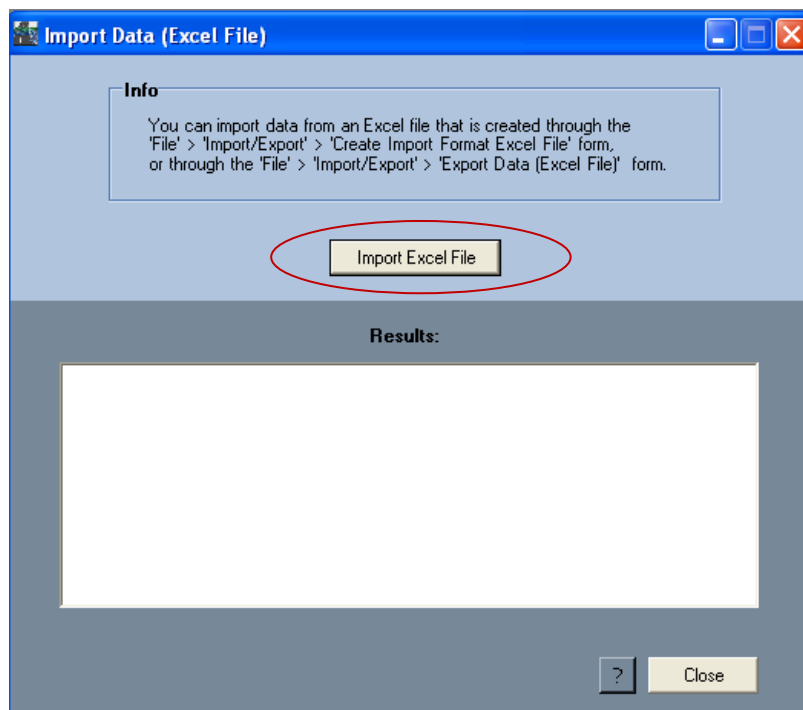

Figure 9 - Import Data from Excel Screen
- The 'Import Data (Excel File)' screen will appear (Figure 9).